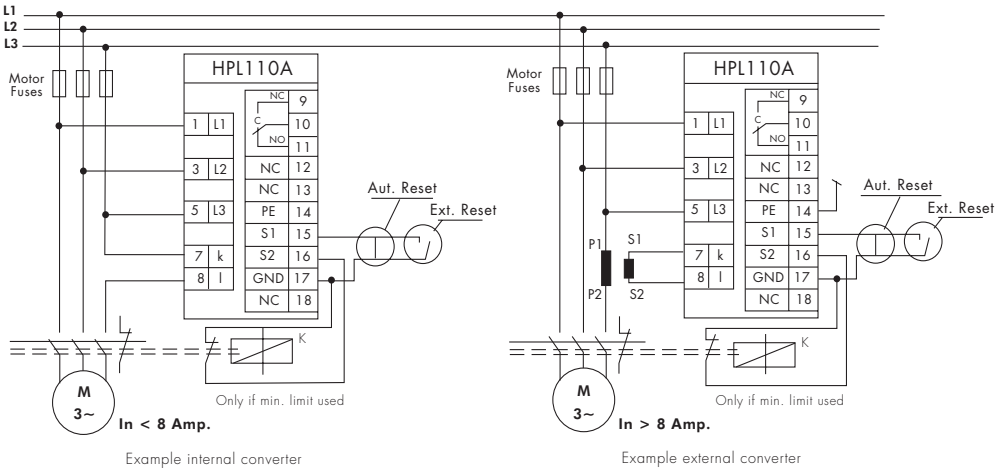

Figure 5.1
The HPL110A should be connected directly in front of the motor starter unit and downstream of the motor fuses and/or isolation breaker as shown in Figure 5.1.
An external current transformer with a secondary rating of 1 or 5 amps must be used if the rated full load motor current is in excess of 8 amps. Figure 5.1 shows correct installation using the internal current transformer (<8A), and using an external current transformer (>8A).
**Power-Down Alarm Blocking:** When the motor is turned off, power drops to zero and a Min. Limit Alarm will be triggered if L2 is active. Figure 5.1 shows an auxiliary normally closed contact on the motor starter being used to short S2 to Gnd when the motor is off. This activates the S2 inhibit function which inhibits alarm functions and prevents a Min. Limit alarm on power down.